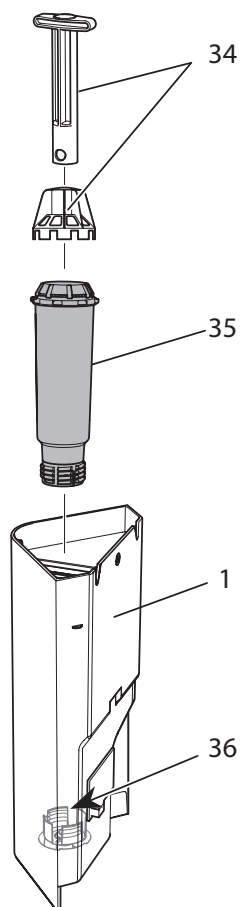

Fig. 19: Screwing/Unscrewing the water filter
7. Insert a new filter in the water tank (see *Fig. 19*).
2. Remove the water filter (see *Fig. 19*).